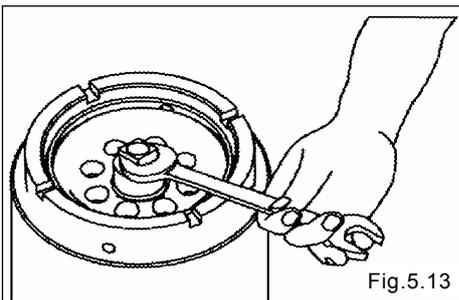

Fig.5.13
- Use the dedicated tool 1, a socket for a guide (option: part number 804131) and a 24-mm wrench to remove the throat bearing. [Fig. 5.12, Fig. 5.13]